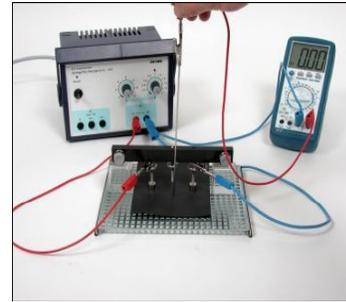

Fig 14
- Find points on the carbon paper, which have the same electric potential. For this purpose scan the carbon paper with the tip of the knitting needle and mark the points as small circles with a pencil (Fig. 14). Start with a value of 1 V and continue in steps of 2 V. Mark eight points for each value.